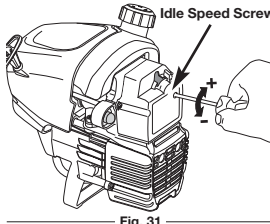

Fig. 31
The idle speed of the engine is adjustable through the air filter/muffler cover (Fig. 31).
2. Release the throttle trigger and let the engine idle. If the engine stops, insert a small Phillips screwdriver into the hole in the air filter/muffler cover (Fig. 31). Turn the idle speed screw in, clockwise, 1/8 of a turn at a time (as needed) until the engine idles smoothly.